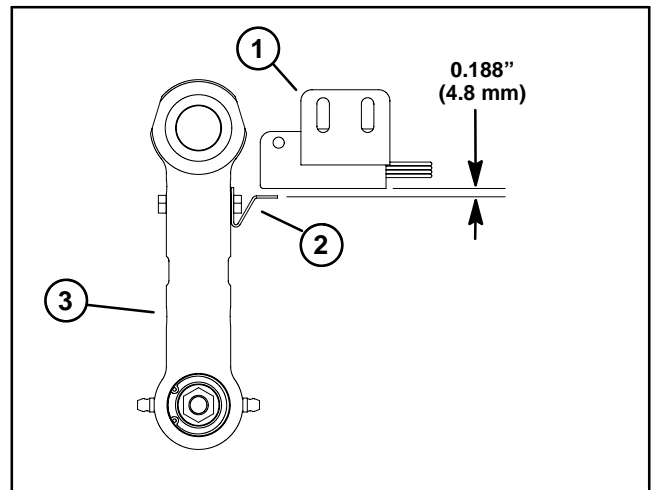

Figure 8
4. When adjusting switch location, the target surface of position switch should be approximately 0.188" (4.8 mm) from actuator tab on wing deck link (Fig. 8).